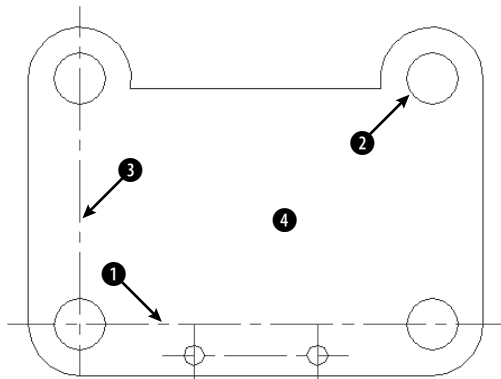

Figure 10-9: A tension arm for a commercial dryer.
2. Save the file as `ab10-03.dwg` in your AutoCAD Bible folder. It looks like Figure 10-9. Set a running object snap for center and turn on `OSNAP`.
Select object to offset or <exit>: Pick ① in Figure 10-9.